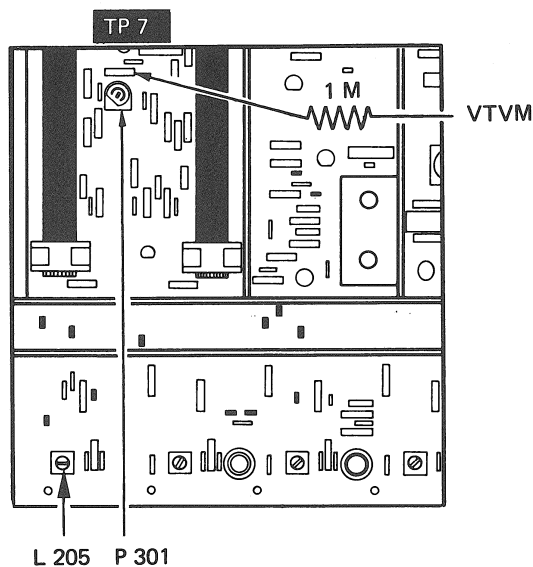

Fig. 4.12.-1
Adjust IF transformer L205 to obtain minimum distortion (see fig. 4.12.-1). The maximum total harmonic distortion with the demodulator aligned must not exceed 0.3 %.
Connect a resistor of 1 Mohm to test point 7 (see fig.4.12.-1); connect VTVM (DC) to that resistor.
Adjust symmetry potentiometer P 301 (see fig. 4.12. 1) to obtain a null indication on the VTVM.